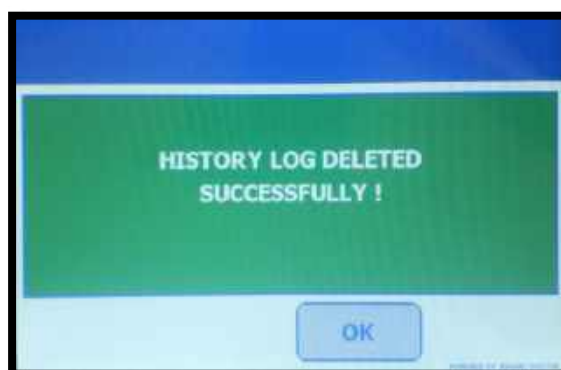

Figure V-40: Purge Successful Screen
10. The FP-24 5G prompts for “HISTORY LOG DELETED SUCCESSFULLY?”. Press [OK] to return to the previous screen (Figure V-40).